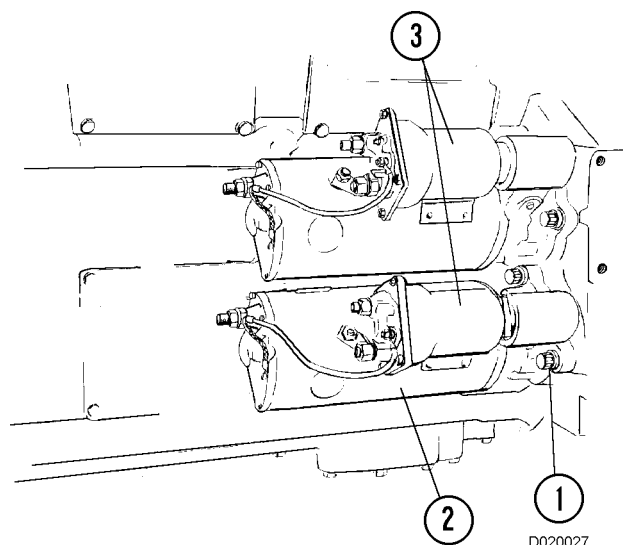

FIGURE 2-3. CRANKING MOTORS
2. Mark wires and cables and remove them from the terminals on cranking motor (2, Figure 2-3) and solenoid (3).
3. Remove cranking motor cap screws (1).
1. Align cranking motor (2, Figure 2-3) housing with the flywheel housing adaptor mounting holes and slide the cranking motor into position.
2. Insert cranking motor cap screws (1).